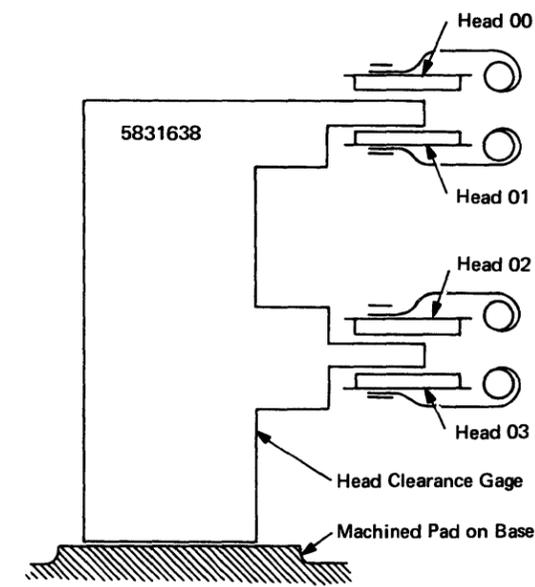

Figure 2-35. R/W Head Clearance Check [07558]
5. Place head clearance gage, part 5831638, on machined pad at the disk side of the cable clamp pillar (Figure 2-35). Jaws of tool should be behind the heads.